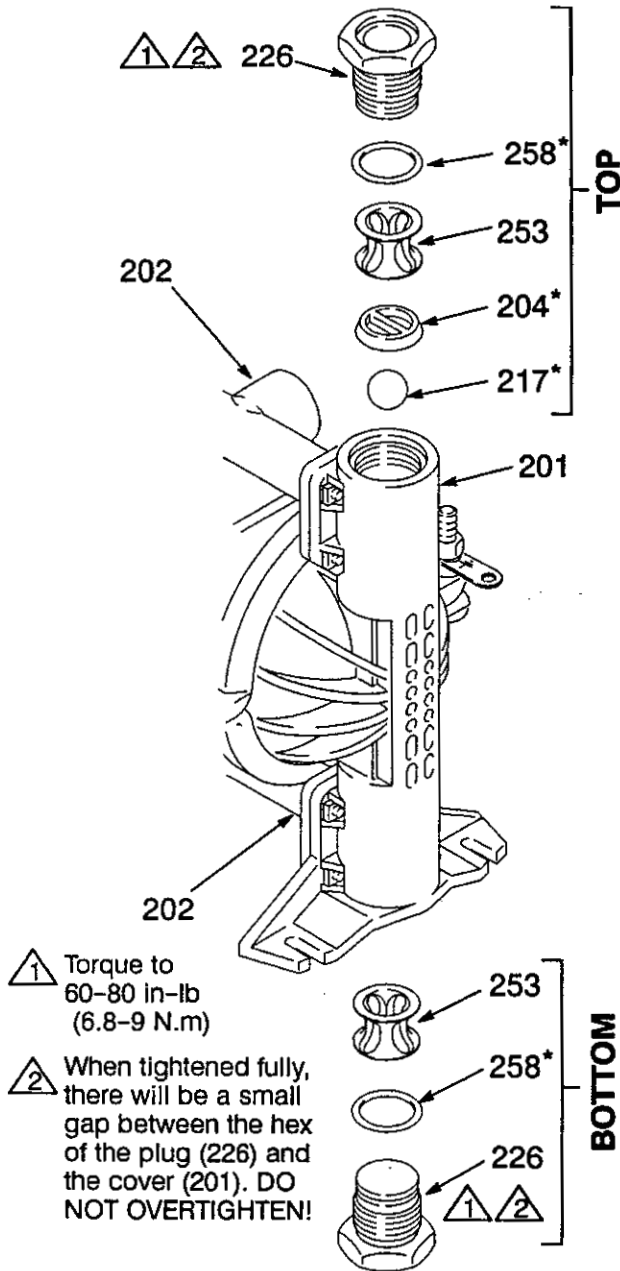

Fig 19-1
2. Disassemble the top ball checks. Turn the pump over. Remove the plug (226) and spacer (253). See Fig 19-1.
6. Reassemble. Follow all notes in Fig 19-1.